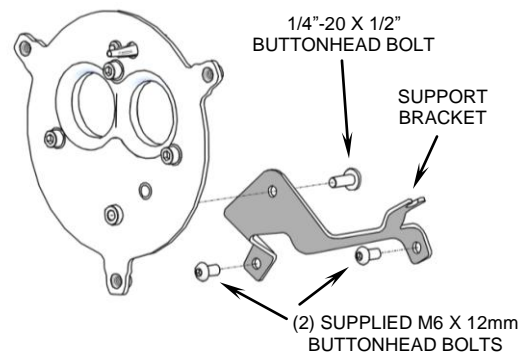
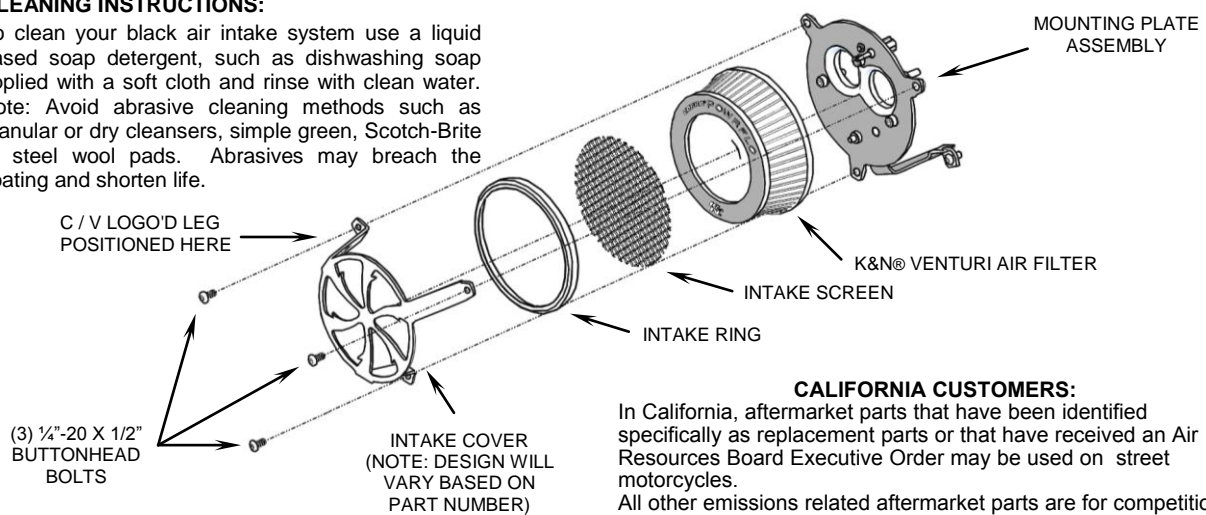

FIGURE 4
FIGURE 5
8. Install the supplied support bracket to the two threaded bosses near the base of the cylinders using the (2) supplied M6 x 12mm buttonhead bolts. Secure the support bracket to the mounting plate using (1) supplied 1/4"-20 buttonhead bolt, and finger tighten. See Figure 4.
9. Fully tighten the (3) M6 x 25mm allen bolts, from Step 7, followed by the support bracket bolts, from Step 8.
11. Insert the round intake screen into the black ring so the screen sits inside the edge of the ring. Place the ring and screen between the legs of the naked black intake cover as shown in Figure 5.
12. Place the naked intake cover, ring and screen assembled in Step 11, over the air filter and align each leg to the base mounting plate threaded holes. Be sure screen sits at a 45 ° angle to the bottom leg, and C/V logo'd leg is at the upper left position. Insert the (3) supplied 1/4"-20 x 1/2" buttonhead bolts through the intake cover and into the base mounting plate, see Figure 5. Double check all parts are aligned properly and tightened securely.